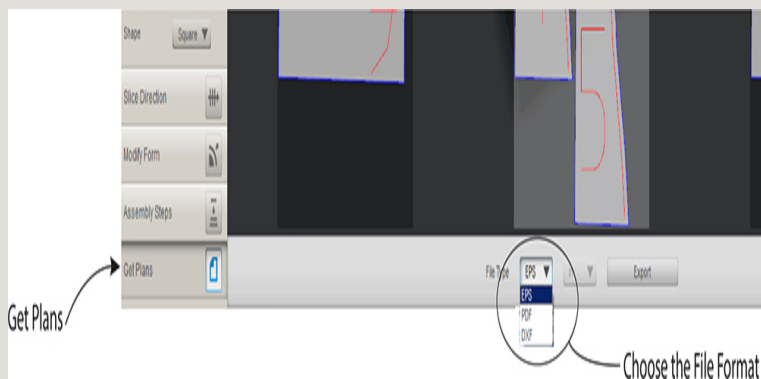

Figure 7-25 Click on the Get Plans icon, choose an .eps, .pdf, or .dxf file format, and export it.
3. Export the file. Click on the Get Plans icon, choose the format (.eps, .pdf, or .dxf) and units, and click Export (Figure 7-25). The file will be exported into a format that is ready for postprocessing (G-code generation) in any CNC machine. The .eps option creates a zip folder with separate files for each sheet. It and .dxf files put text on one layer and profiles on another, which is useful when importing into another CAM program for CNC cutting.